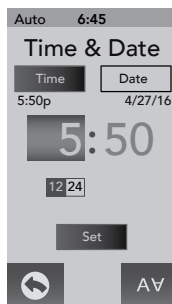

Figure 12.9c
2. Tap and scroll the hour block **5:50** to program and change the hour in 1-hour increments, Figure 12.9c. To switch from “AM” to “PM” you must round a 12-Hour period.